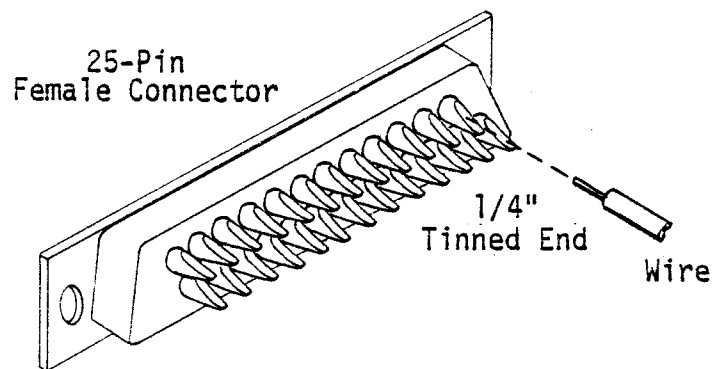

Figure 5-23. Solder Wires to 25-DB Female Connector
C. Installation of Cable Assembly Into 25-DB Female Connector (Figure 5-23)